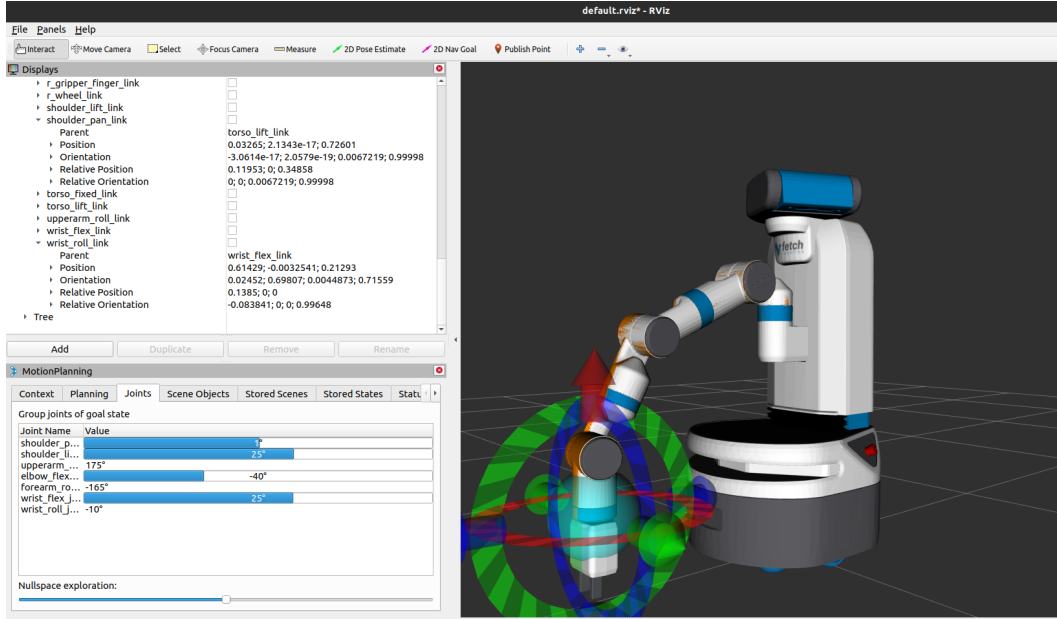

Figure 9: Picking up from the ground with Fetch.
**Answer:** Figure 9 shows the state, in which the Fetch robot can pick up an object from the ground. The set of joint angle values can be found in the Joint tab.